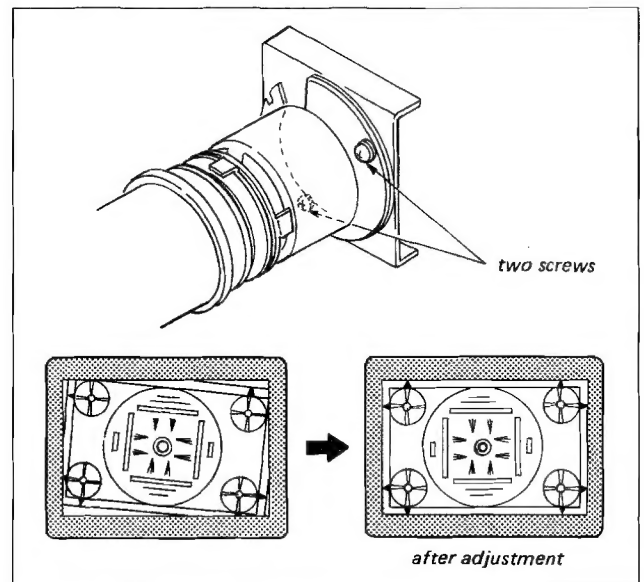

Fig. 8-1. DY tilt adjustment
1. If the monitor picture is tilted on the monitor screen, loosen the two diagonal screws shown in Fig. 8-1 fixing the DY and turn the DY until the picture is not tilted.